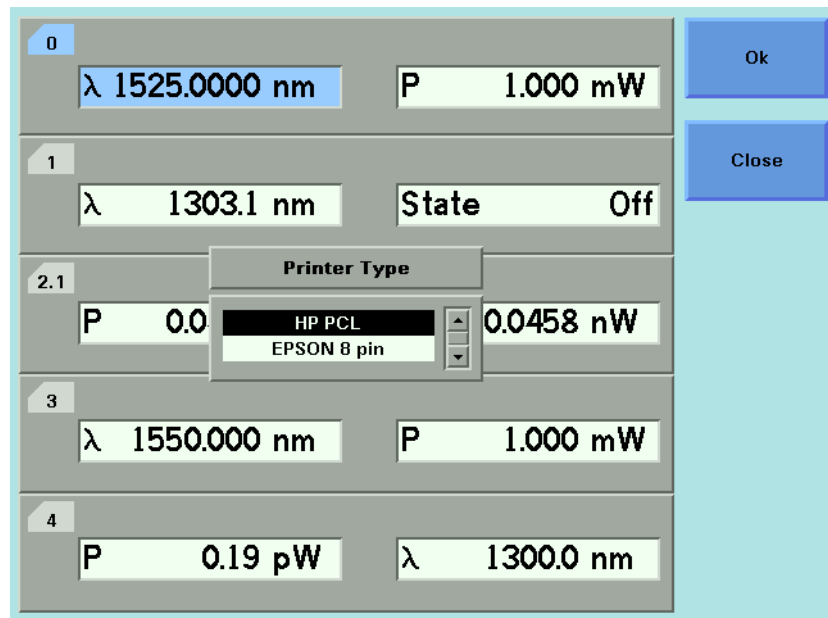

Figure 51 Selecting a Printer Type
- 2 Move to the *<Printer Type>* menu option and press *Enter*. You see a box, as shown in Figure 51 on page 90, displaying the following printer types: